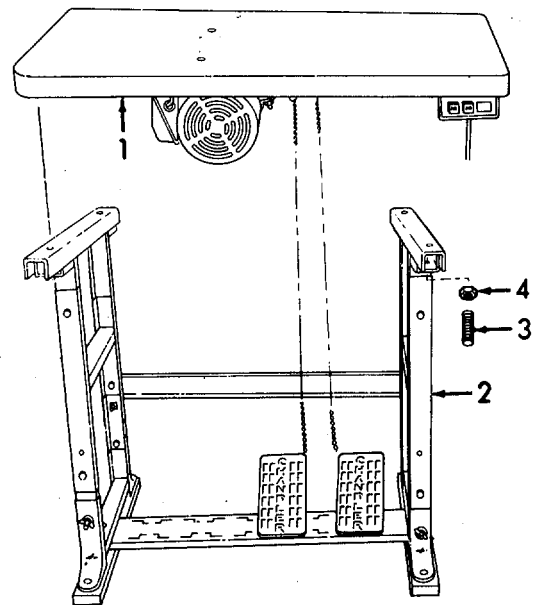

Figure 2-13. Button Sewing Machine Table, Assembly.
- (22) Install bobbin winder (6) to table (7) and secure with two wood screws(8). Adjust for 1/8 inch (3 mm) clearance between bobbin winder pulley and belt.
- (23) Install thread unwinder base (9) to table (7) and secure with three wood screws (10).
- (24) Install two posts (11), two flat washers (12), two nuts (13), and two pads (14) to cone rest (15).
- (25) Install cone rest (15) bottom post (16). Secure the rest (15) by tightening the setscrew (17).
- (26) Install thread guides (18) to top post (19) and secure with clip (20), washer (21), and wingnut (22).
- (27) Install top post (19) to bottom post (16) and secure by tightening nut (23).
- (28) Install bottom post (16) to unwinder base (9). Secure by tightening nut (24).
- (29) Install sewing machine rest (25) to table (7).
g. Assembly of Button Sewing Machine Table (Refer to Figures 2-13 and 2-14).
- (1) Assemble the stand in accordance with paragraph 2-9e, steps (1) through (6).
- (2) Refer to Figure 2-13. Install a sewing table top which is labeled 600-10 (1) on stand (2).
- (3) Start all four studs (3). Tighten studs (3) and then tighten all four nuts (4).
- (4) Pull the tray containing the button sewing machine head labeled (600-10) out of the cabinet until it hits the stop.